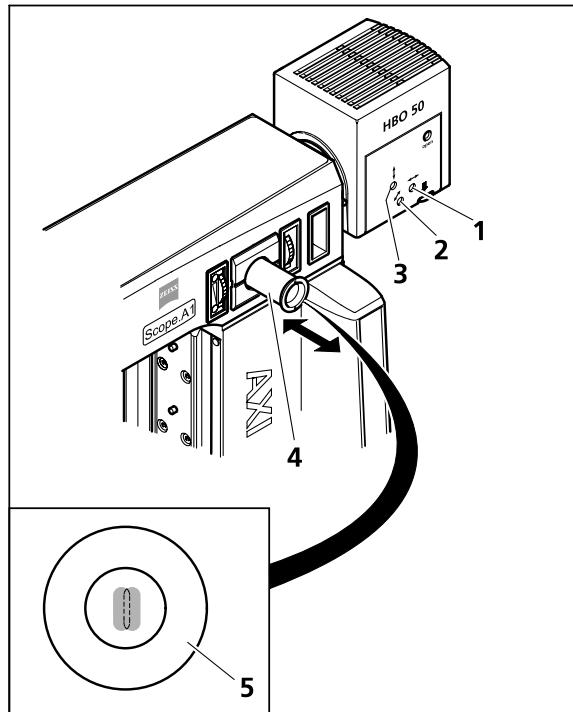

Fig. 3-30 Adjusting the HBO 50
- Pull out the adjustment aid (Fig. 3-30/4). The adjustment aid's display panel (Fig. 3-30/5) shows the burner's light arc (in a lighter color) and its reflection (slightly darker).
- With the aid of the adjustment screw (Fig. 3-30/1) adjust the burner axially to the mirror so that both light arcs appear the same size in the display panel of the adjustment aid (see Fig. 3-30/5).
- With the aid of the adjustment screws center the light arc and its reflection vertically (Fig. 3-30/3) and horizontally (Fig. 3-30/2) and position those in a parallel line within the adjustment circle of the display panel (Fig. 3-30/5). Light arc and reflection should not overlap.